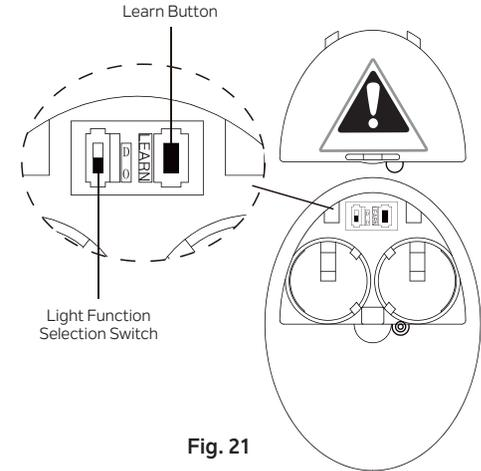

Fig. 21
LIGHT FUNCTION SELECTION SWITCH (Fig. 21)
PAIRING THE TRANSMITTER TO THE FAN (Fig. 21)
Step 2. Restore power to the ceiling fan branch circuit at the circuit breaker or fuse box. Within 30 seconds of restoring power, press and hold the LEARN button on the back of the transmitter (**Fig. 21**) for 3 seconds. The fan will turn on at medium speed. This confirms that the pairing process is complete. The transmitter will now be paired to your fan and ready for use.